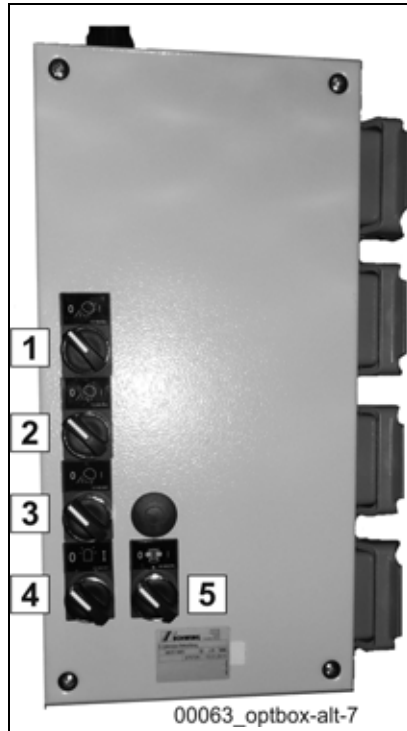

Fig. 446 E-option box on a truck-mounted concrete pump
0 The selector switch (4) (**Fig. 446**) is located in a separate housing next to the switch cabinet with the machine controls.